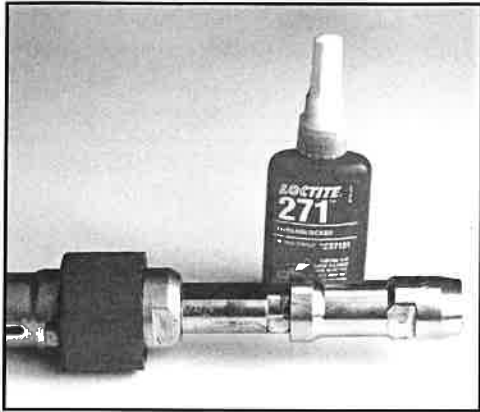

FIG. 51: APPLY LOCTITE AND TIGHTEN CONTROL STUD ADAPTER
8. Apply Loctite 271 or 277 to the control stud adapter and tighten until it fits all the way onto the control stud (see Fig. 51).